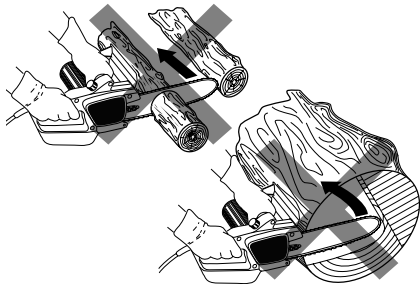

Figure 6 - Examples of Kickback
- A cutter on guide bar nose strikes the bottom of the saw cut while the guide bar is being reinserted in the cut (See Figure 6).
3. Always know where the nose of the guide bar is. **DO NOT** let the guide bar nose contact any object (See Figure 6).
5. Use your saw within its capacity. **DO NOT** bury the nose (See Figure 6).